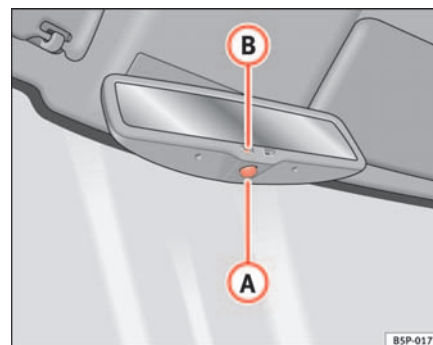

Fig. 66 Automatic anti-dazzle interior mirror.
- Press button **A** ⇒ fig. 66. Warning lamp **B** goes out:
- Press button **A** ⇒ fig. 66. Warning lamp is lit.